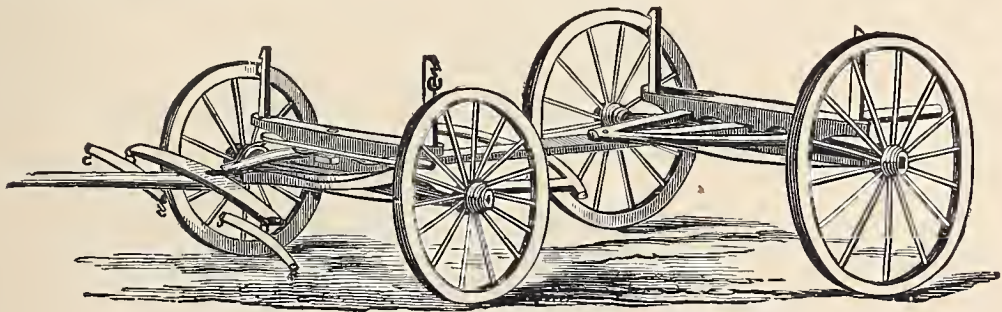

Fig. 559.—Running Gear.
*The Running Gear.*—We illustrate this at *Fig. 559*, and as shown it is used in transporting lumber; but a body can be fitted to it, so that it will also serve as a farm-wagon. This makes a very convenient rig. The size of axles can be varied, also the track, as in farm-wagon just described. The reach is so constructed as to extend and contract to suit it for different lengths of timber.